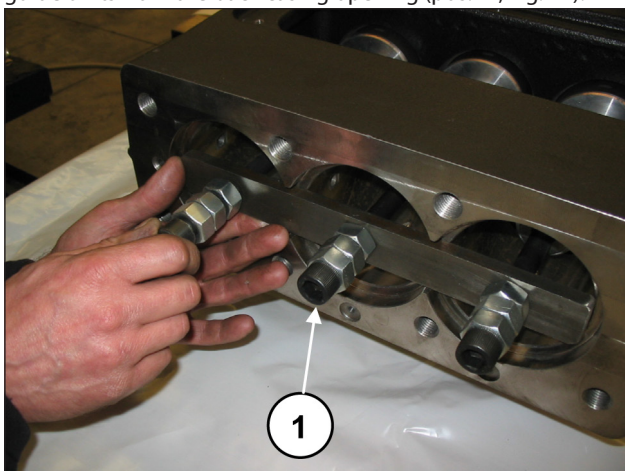
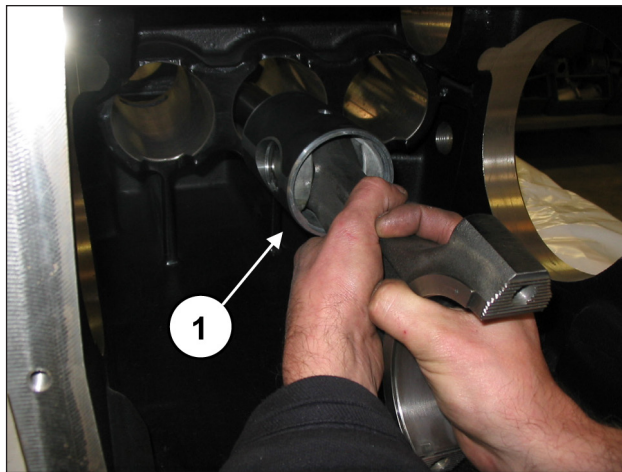

Fig. 41
Fig. 42
Unscrew the screws with tool code 27566200 to unlock the con-rods (pos. ①, Fig. 41) and then extract the con-rod-piston guide units from the back casing opening (pos. ①, Fig. 42).
Separate the caps from the half supports. Proper coupling can be verified by the numbering on the side (pos. ①, Fig. 43). After having checked casing cleaning, proceed with assembly of half support-piston guide unit inside casing rods (pos. ①, Fig. 42).
Block the three units with the use of special tool code 27566200 (pos. ①, Fig. 41).
Remove the tool for blocking the con-rods code 27566200 (pos. ①, Fig. 41) and roll back the connecting rods until they touch the bend shaft.